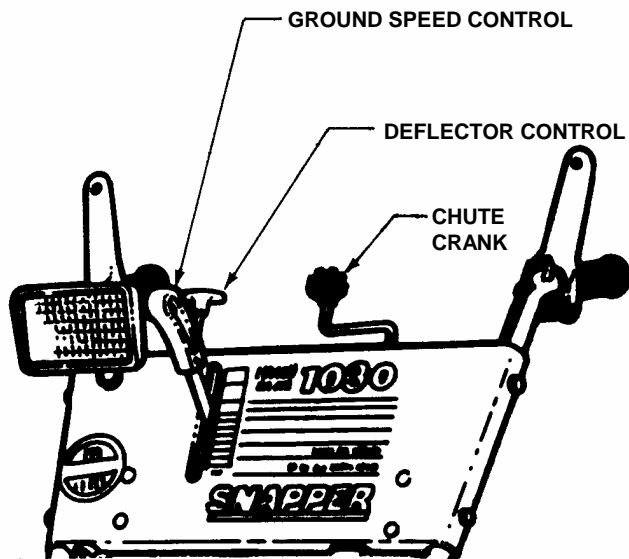

FIGURE 2.5
1. Move ground speed control to the desired speed position. See Figure 2.5.
3. Rotate chute crank to position discharge chute in desired direction. See Figure 2.5.
- IMPORTANT:** This snow thrower has six forward speeds and one reverse speed. See Figure 2.5.
1. Move wheel drive control lever against handle to engage wheel drive. Ground speed can be adjusted while the machine is moving by changing position of the ground speed control. Machine has six forward speeds and one reverse. See Figure 2.5.